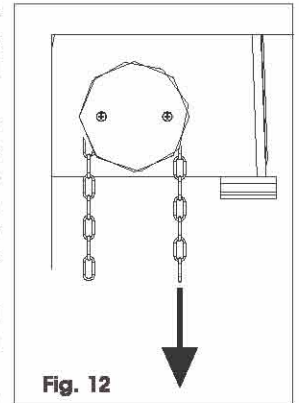

Fig. 12
- 1) Operate the release device, pulling the right-hand section of the chain (Fig. 12) until it stops.